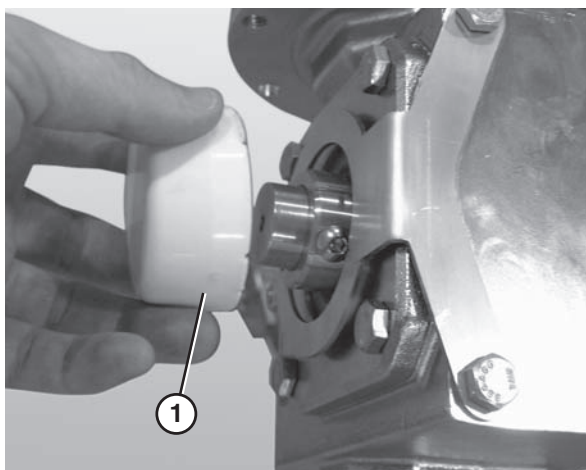

Figure 37
6. Attach the gearmotor cover (**Figure 37, item 1**).